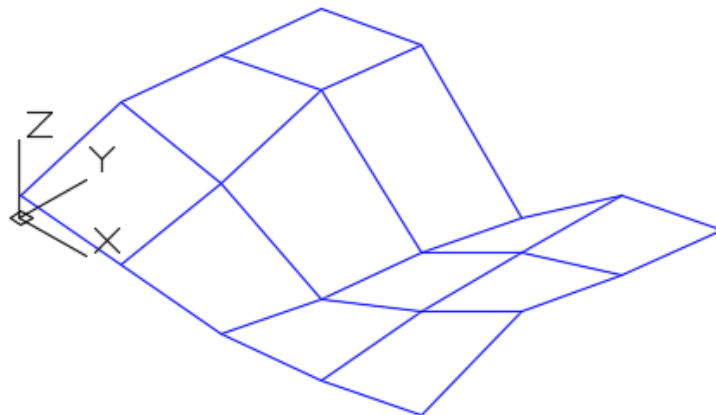

Figure Step 12
Step 12 Set the current visual style to 2D Wireframe and turn layer: Surface 1 off. You will only see the 3D polylines. (Figure Step 12)